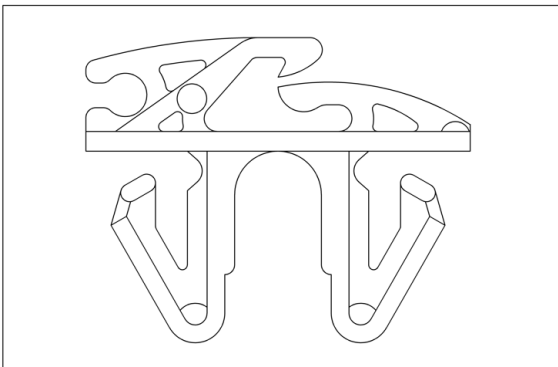

Fig 15. Outer Clip.
1. **Outer clip:** These are on the very end of each arm and have a semi-circular notch. (Fig. 15)